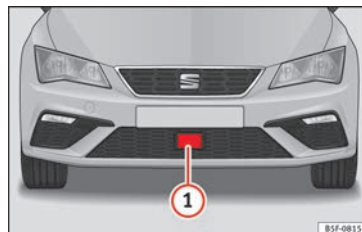

Fig. 208 On the front bumper: radar sensor.
A radar sensor is installed on the front bumper to determine the traffic situation **» Fig. 208 ①**. This sensor can detect vehicles in front up to a distance of approximately 120 m.